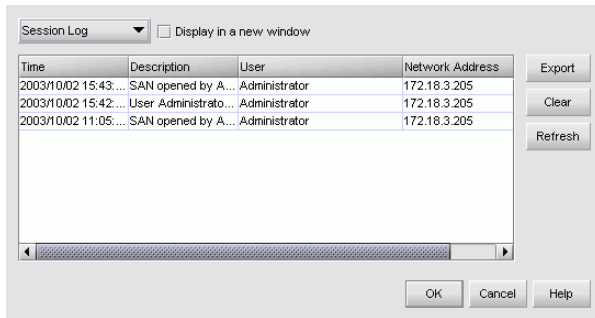

Figure 60 View Logs dialog box
The View Logs dialog box is displayed (Figure 60).
1. Select the log you want to export from the View Logs dialog box (Figure 60).